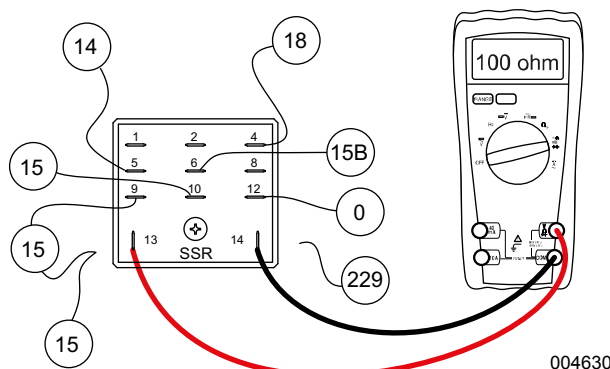

Figure 4-53. Testing Start Stop Relay (SSR)
2. See Figure 4-53. Disconnect wire 15 and wire 229 from the Start Stop Relay (SSR).
NOTE: See Figure 4-53. wire 15 connects to the SSR at three terminals.